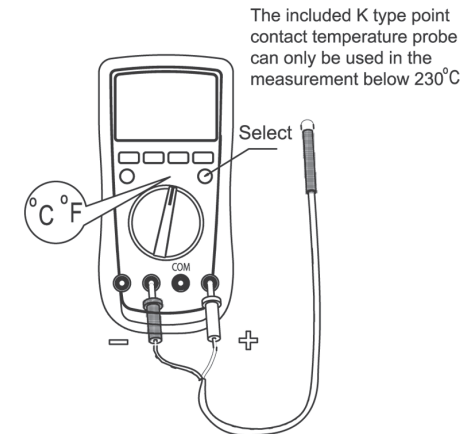

figure 9)
H. Temperature Measurement (72-10405 and 72-2610 only) (See figure 9)
2. Insert the temperature probe into the input terminal as shown on the figure 9.